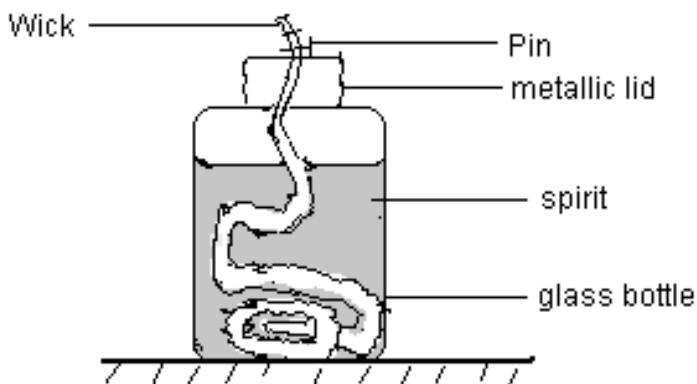

Figure 2.3: Spirit burner
5. Push the pin through the wick on the upper side of the lid as shown in Figure 2.3. What do you think is the use of the pin?
8. Put the lid back onto the bottle. Your burner should be similar to that in Figure 2.3.
How can you make the spirit burner in Figure 2.3 more efficient as a heating apparatus?